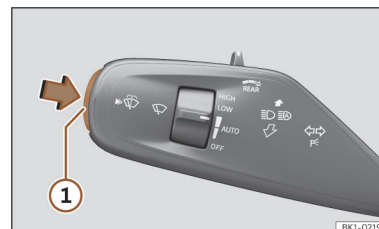

Fig. 207 Wiper lever
- Press the windscreen button ① (short press) >>> Fig. 207.